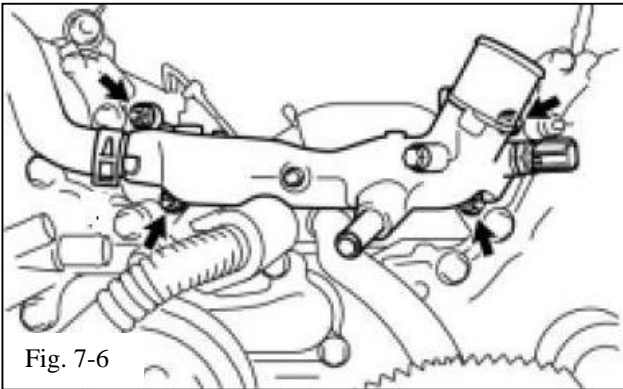

Fig. 7-6
- (1) Remove the 4 nuts and 2 gaskets (Fig. 7-6). Retain them for reuse.
- (2) Discard the water bypass joint.
- (3) Clean the gaskets and mating surfaces on the engine.